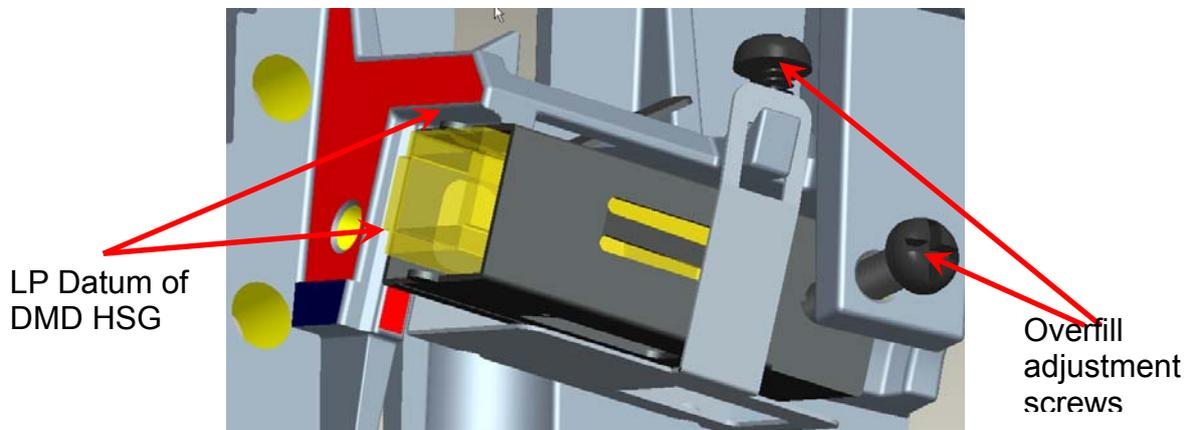

Fig. 4-7
- iv. Placed LP Module on LP datum of “DMD HSG” and adjustment screw well, shown (Fig.4-7).